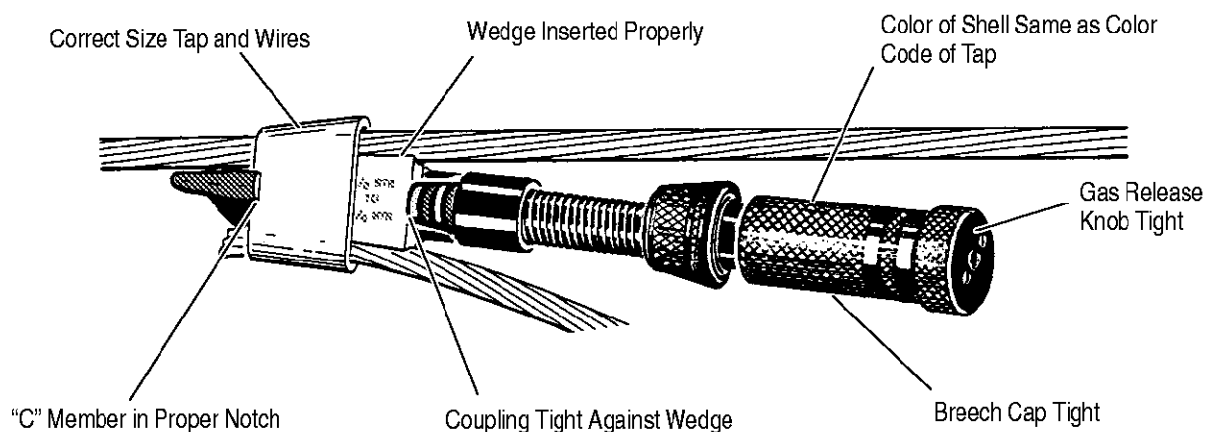

Figure 23
4. Tool is now mounted and self supporting before and after firing. Before firing, visually inspect the mounted tool for the following conditions (see Figure 23):